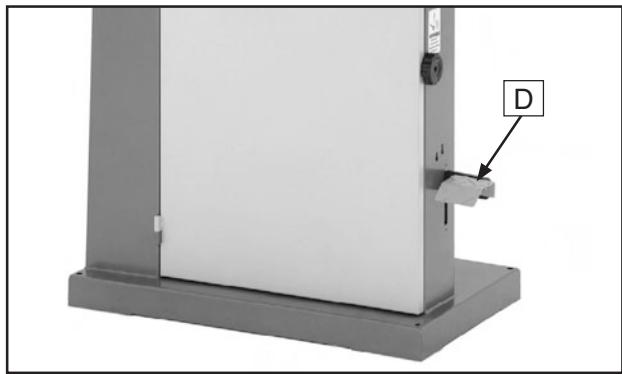

Figure 51. Foot brake (G0514X2/G0514X3).
- E. **Foot Brake (Figure 51, G0514X2/G0514X3):** Cuts power to motor and allows bandsaw blade to be quickly brought to a stop.